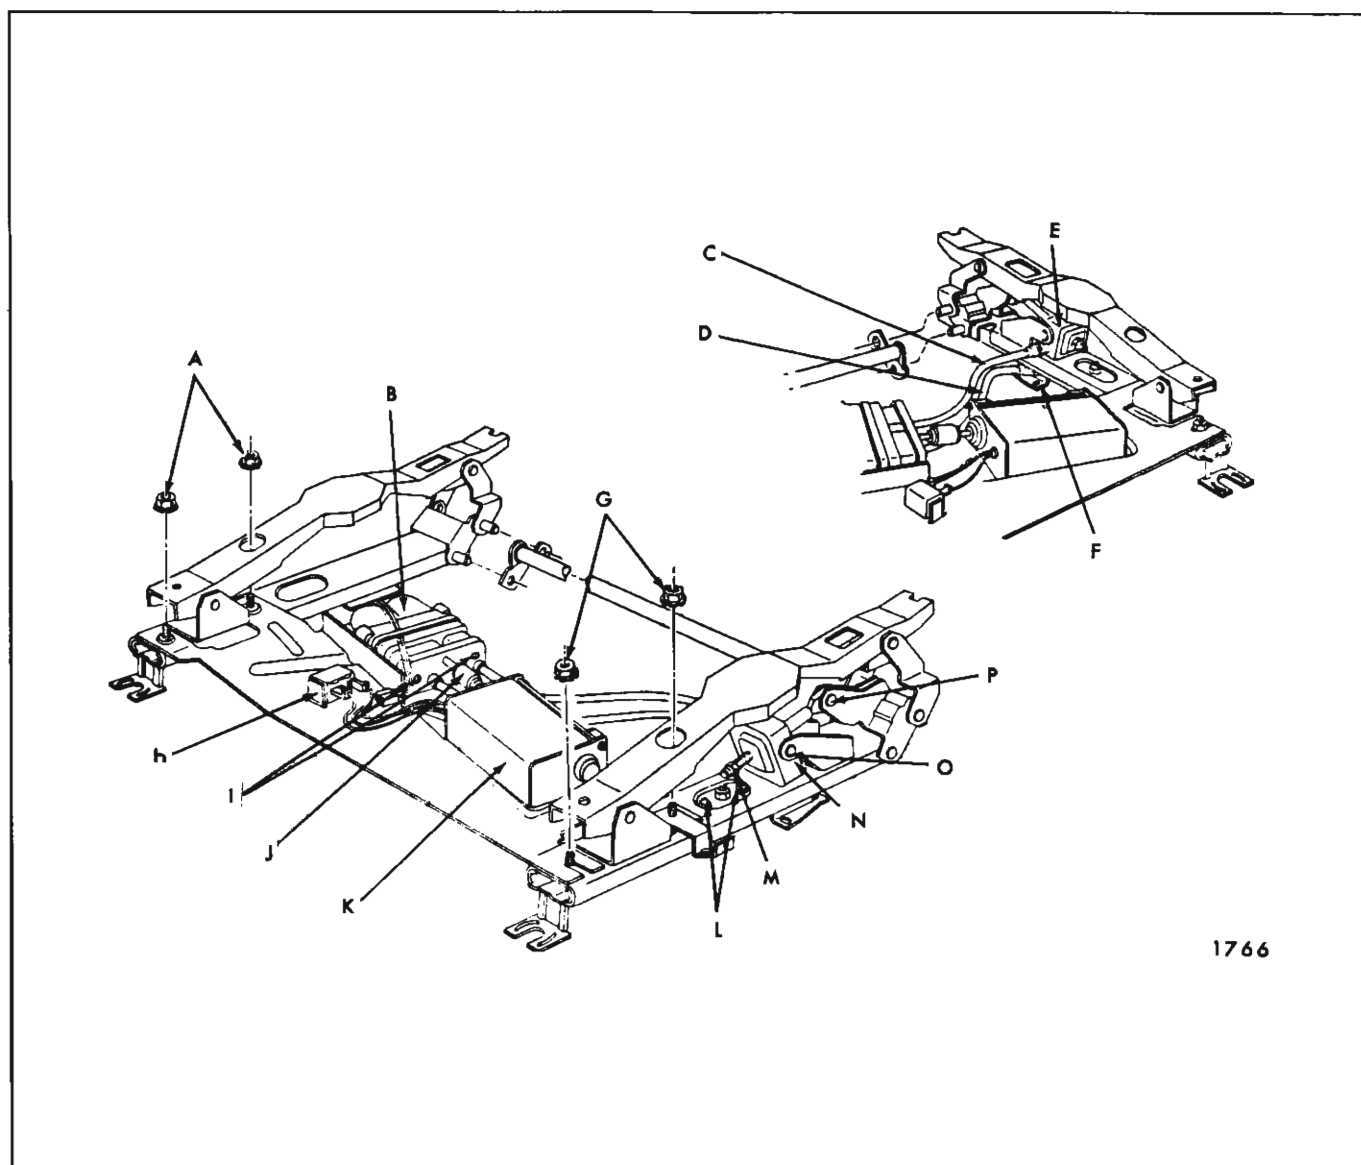

Fig. 2H15—Bucket Seat Adjuster Assembly
3. Using a clutch type screwdriver or other suitable tool, remove shoulder screws securing linkage to vertical gearnut (Fig. 2H15).
4. Remove jackscrew "down" stop from jackscrew (Fig. 2H15).
2. Remove seat adjuster-to-seat bottom frame front and rear attaching bolts (Fig. 2H14).